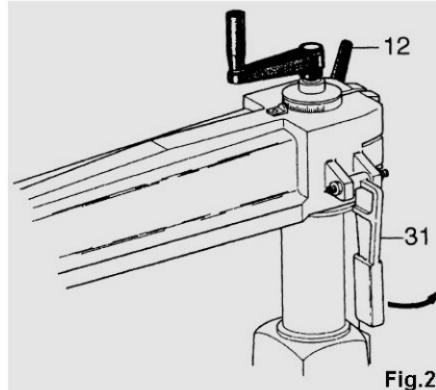

Fig.26
To rotate the head-bearing arm on the pillar support refer to figure 26, which shows the self-centring wedge lever (31) to be raised and the jacquard (12) to be loosened and tightened. Raise and lower the lever only when the jacquard is loosened, so as to take advantage of its self-centring function.